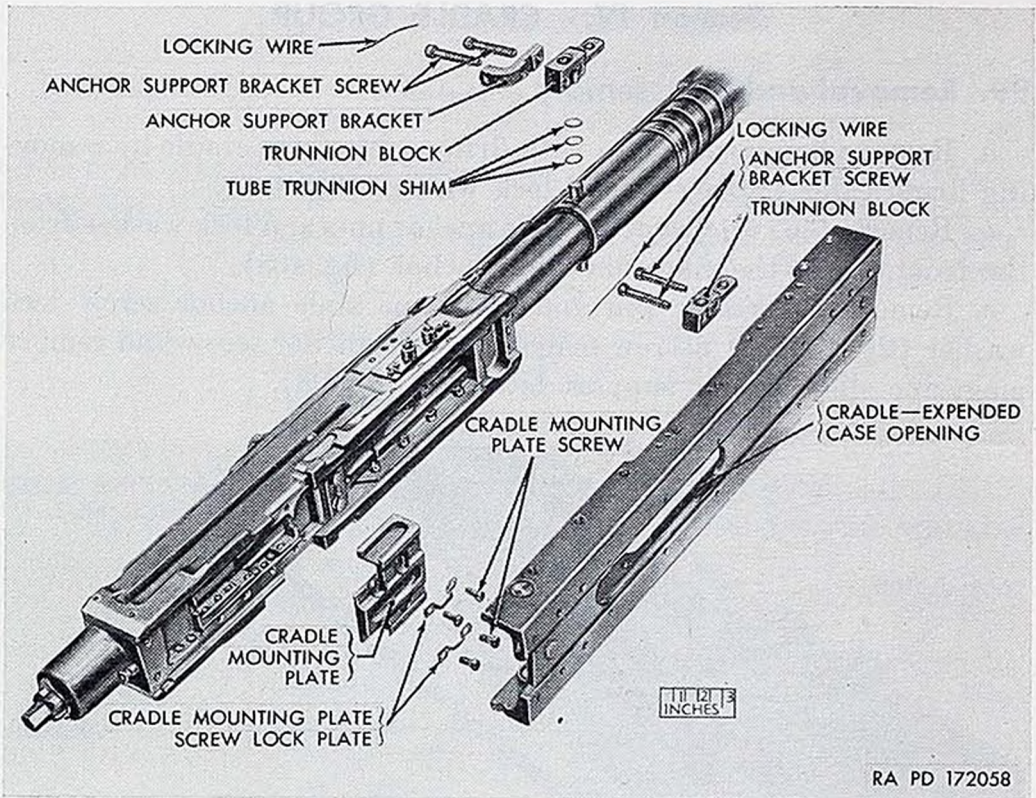
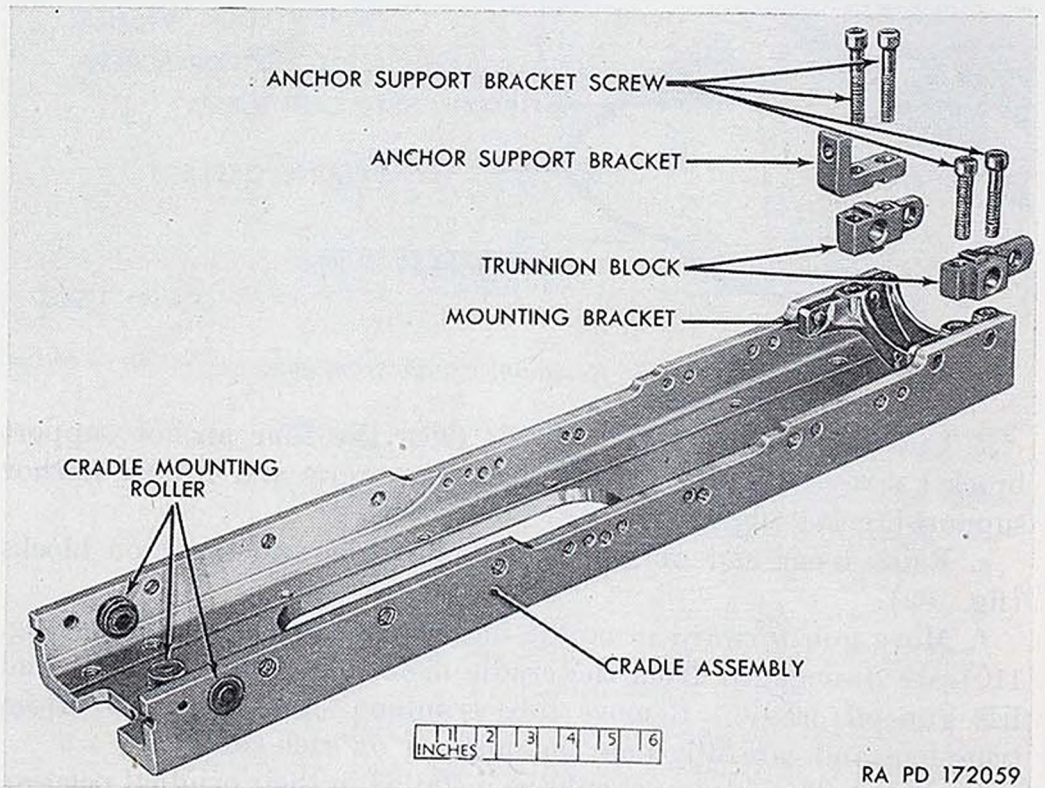

Figure 109. Cradle removed from gun.
Figure 110. Parts of cradle.
d. Cut and remove locking wire from the four anchor support bracket screws (fig. 109). Unscrew the screws and lift off anchor support bracket (fig. 109).
e. Raise front end of gun and remove the two trunnion blocks (fig. 109).
f. Move gun forward in cradle until cradle mounting rollers (fig. 110) are disengaged from the cradle mounting plate (fig. 109) and lift gun off cradle. Remove tube trunnion shims (fig. 109) from trunnions and carefully note the quantity on each side.
a. Install tube trunnion shims (fig. 109) in original position on trunnions.
b. Engage cradle mounting plate of gun with the cradle mounting rollers of cradle and raise forward end of gun enough to slide the two trunnion blocks (fig. 110) on the trunnions and lower forward end of gun. The lugs on the underside of the trunnion blocks should engage the slots in the cradle mounting bracket and the drilled flange on the trunnion block should point toward the muzzle end of the gun. Install the four anchor support bracket screws and tighten by hand; they should be slightly loose to permit adjustment of the spacing between the recoil housing and the trunnion blocks. This adjustment must be made whenever the trunnion blocks and shims are removed; refer to paragraph 102 for the procedure.
c. After adjustment, remove two screws from left or right trunnion block and position the anchor support bracket on trunnion block, with vertical arm on bracket to the rear of the trunnion block. Install the two screws. Tighten the four anchor support bracket screws and wire them with locking wire (fig. 109).